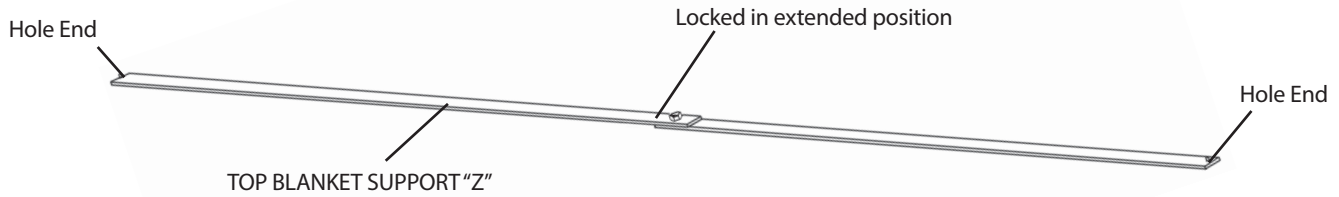

Figure 30.1
STEP 22: Locate the (4) TOP BLANKET SUPPORTS "Z". Begin by unfolding the (4) TOP BLANKET SUPPORTS "Z" and locking them in their extended position, as illustrated in Figure 30.1. If needed, tighten the Bolt and Nut to secure part in extended position.